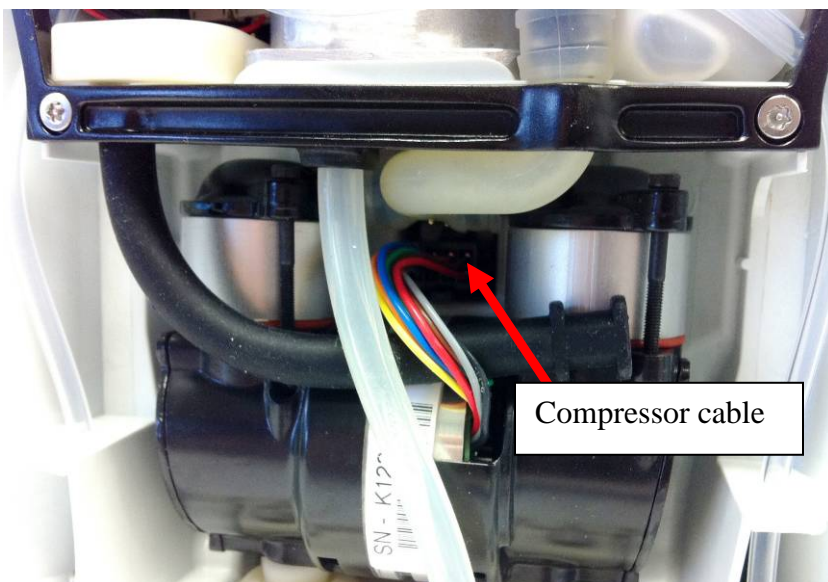

Figure 9: Detach compressor cable from motherboard
1. To gain access to the breath detect, the motherboard must be removed. Locate the compressor cable. Detach the compressor cable from the motherboard using long pliers to press down on the release clip while pulling on the wire connector (Figure 9). *Do not pull on the compressor wires.*